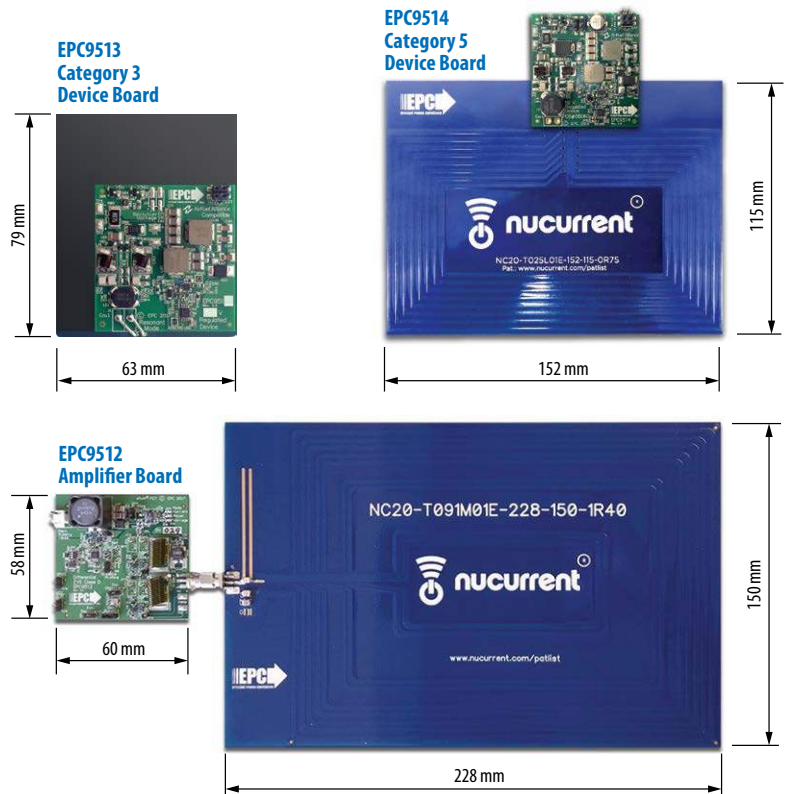
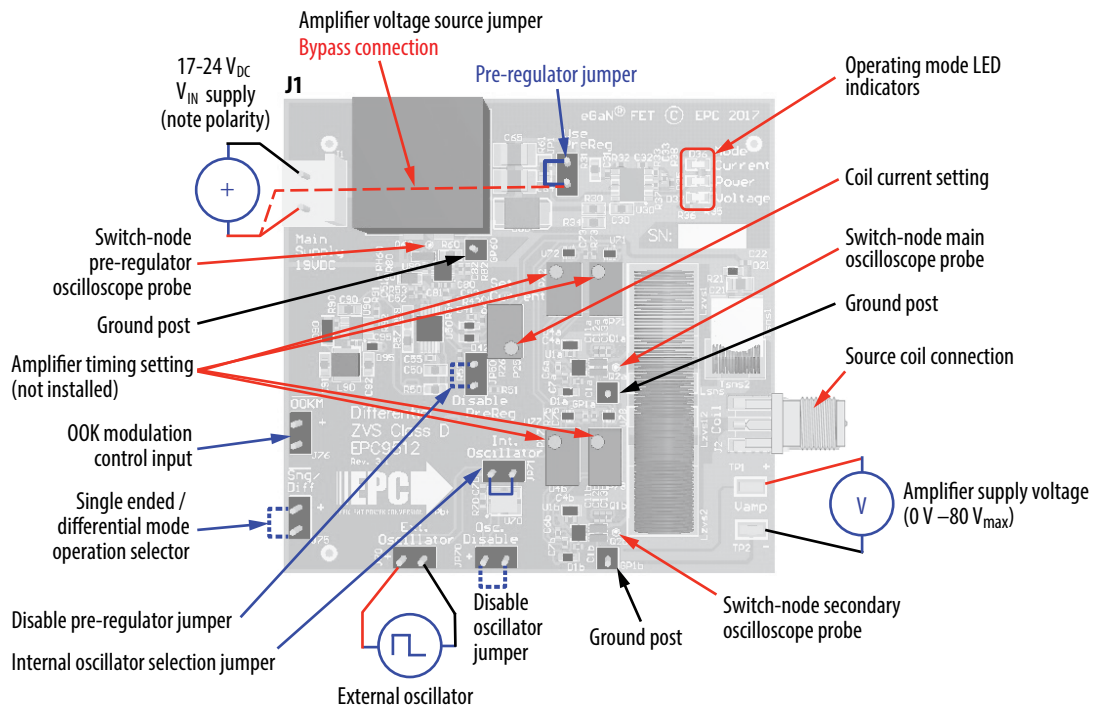

Figure 1: EPC9129 demonstration system.
Figure 8: Proper connection and measurement setup for the amplifier board.
The EPC9129 wireless power system is comprised of the four boards (shown in figure 1), namely:
The assembly of the EPC9129 Wireless Demonstration kit is simple and shown in figure 1. The source coil and amplifier have been equipped with SMA connectors. The source coil is simply connected to the amplifier. The device board do not need to be mechanically attached to the source coil.
The EPC9129 demonstration system is easy to set up and evaluate the performance of the eGaN FET in a wireless power transfer application. Refer to figure 1 to assemble the system and figures 8, 9, and 10 for proper connection and measurement setup before following the testing procedures.
2. With power off, connect the main input power supply bus to J1 as shown in figure 8. Note the polarity of the supply connector.
2. With power **off**, connect the **main** input power supply bus $+V_{IN}$ to the bottom pin of JP1 and the ground to the ground connection J1 as shown in figure 8.